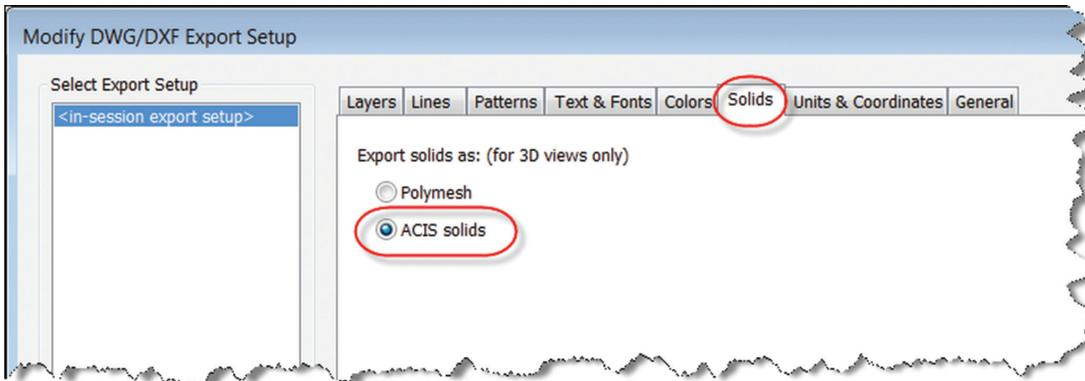

Figure 2
- Set solids export to “ACIS solids” to preserve the integrity of the object properties and geometry as much as possible. If you export as mesh geometry, you’ll end up with individual facets for geometry, which are of little use (Figure 2).